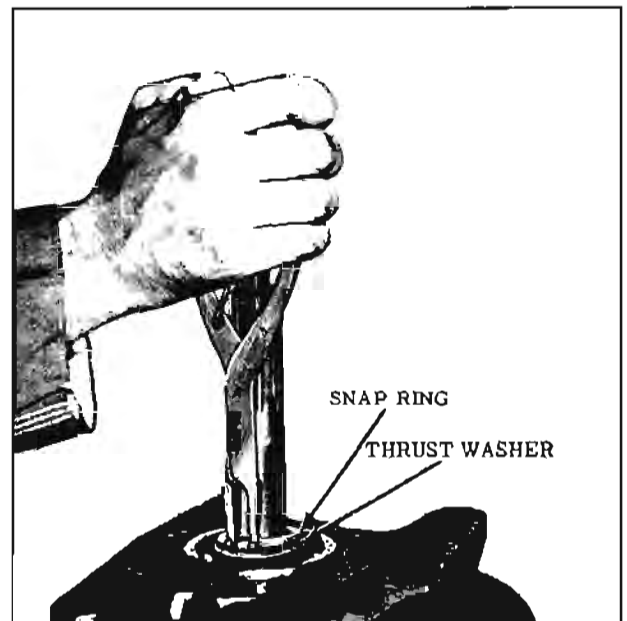

Fig. 11-221 Main Shaft Snap Ring Removal
2. Remove the small snap ring and thrust washer from the main drive gear shaft. (Fig. 11-221)